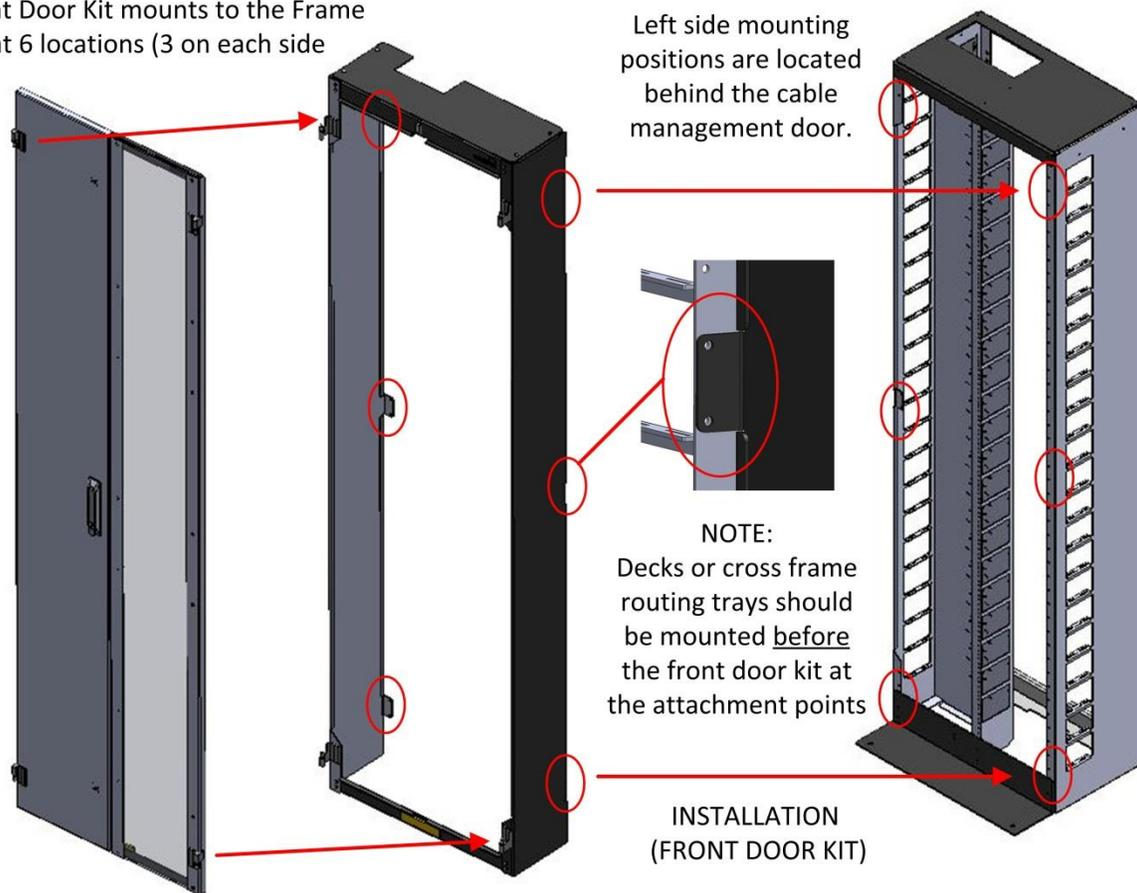

Figure 30
5. Mount the Front Kit to the HDF 3168 Frame using the provided #12/24 screws (2 each at 3 locations: top, center and bottom on the left side of the frame and at Deck positions 0, 10 and 21 on the right side of the frame) as shown in Figure 30.
7. Place the right and left doors onto the door hinge posts (Figure 30).